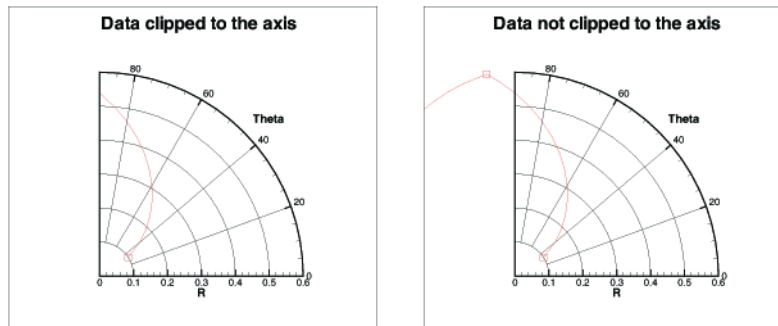

Figure 17-5. An example of clipping polar data to an axis.
- **Clip Data to axis** - For Polar Line plots, it is possible to have data that extends beyond the edges of the axes. Use this feature to eliminate data drawn outside of the range of the axes. Clipping data can be set independently for each axis. To activate or deactivate clipping, toggle "Clip Data to Axis" on or off. This feature is illustrated in Figure 17-5.